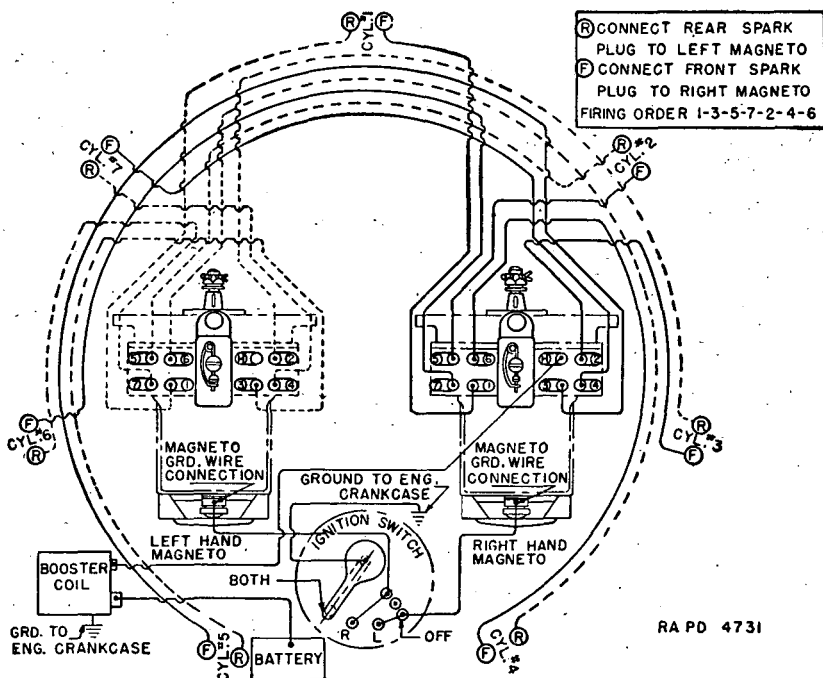

FIGURE 26.—Ignition wiring diagram, Continental engine.
(1) Set the marks on the driven magneto distributor gear so they coincide with the marks on the magneto front plate. Mount magneto so the position of the studs in the slotted holes of the magneto mounting flange is as close as possible to the original position without moving the magneto distributor gears or the engine crankshaft.
(2) Insert the spark plug cable for number 1 cylinder into the distributor block cable hole marked number 1 (fig. 26). The cable for number 3 cylinder, the next to fire, is placed in the magneto distributor block hole marked number 2. *The numerals on the distributor blocks*